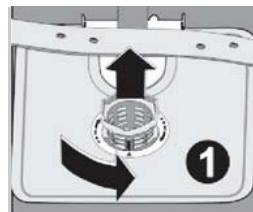

fig 9
2. Turn the microfilter anticlockwise and then lift it out as in figure 9.
3. To remove the upper spray arm, first remove the nut on the upper spray arm by turning it as in figure 9.